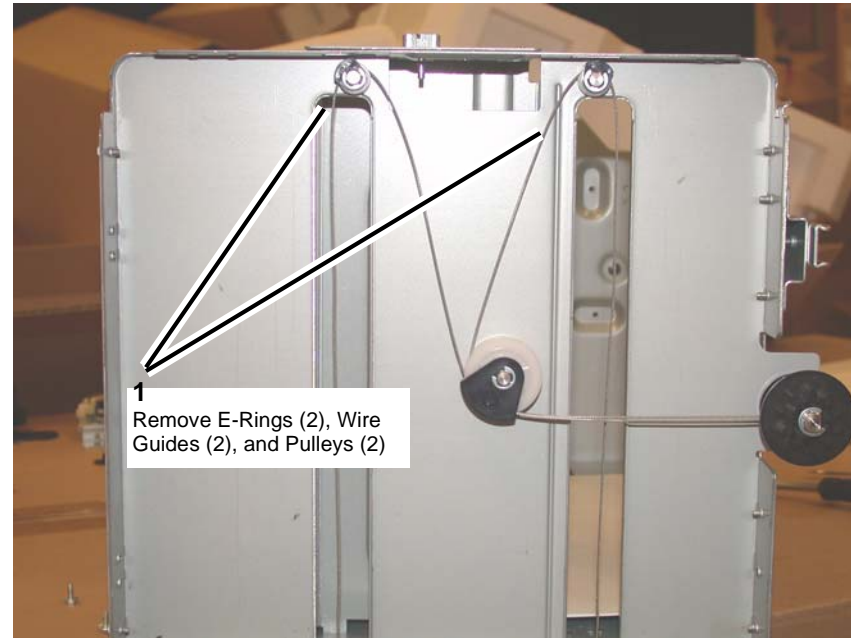

Figure 8 Preparing to remove the Front Tray Cables
3. Remove the E-Rings, Wire Guides, and Pulleys from the front of the HCF Tray (Figure 8).